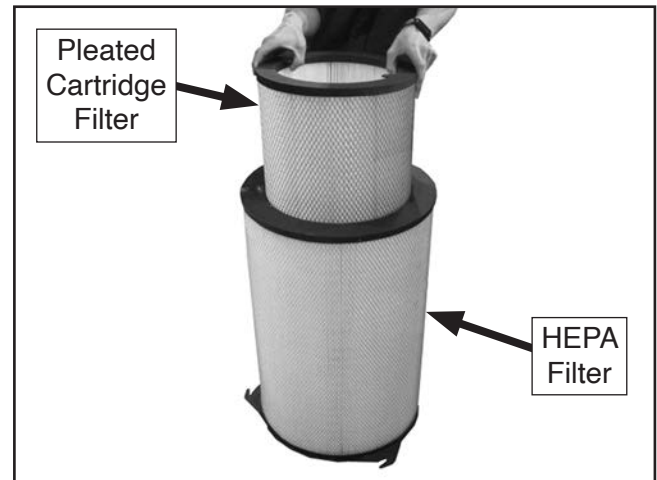

Figure 85. Replacing pleated cartridge filter.
2. Slide clean filter or replacement pleated cartridge filter into new HEPA filter, as shown in **Figure 85**.